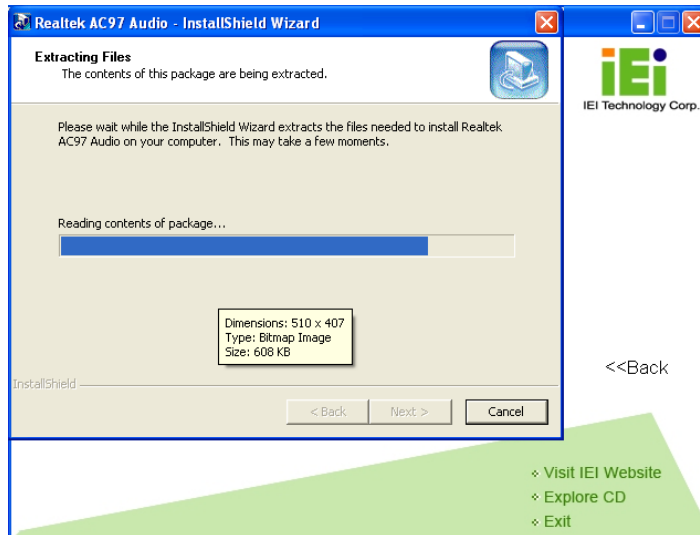

Figure 7-25: AC'97 Driver Installation File Extraction
Step 2: The installation files are extracted as shown in Figure 7-25.